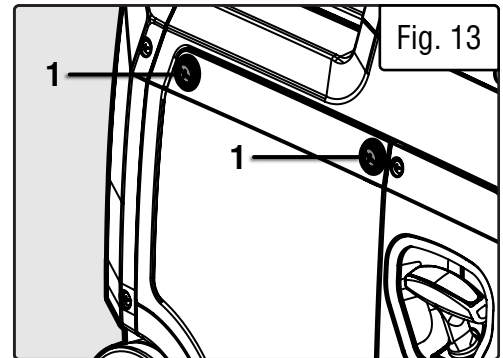
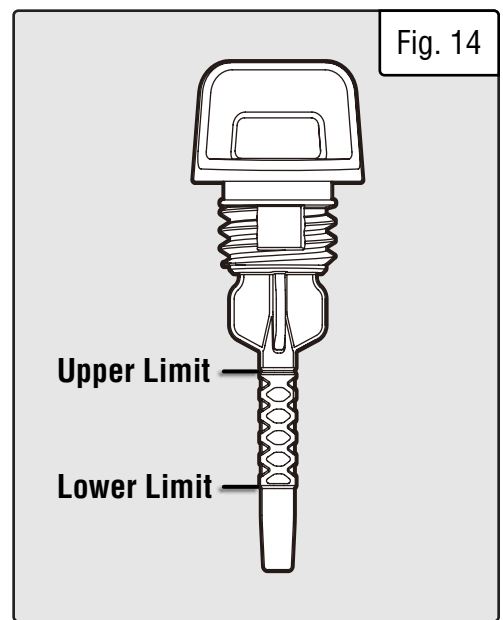

Fig. 13
Fig. 14
2. Open the side panel (to the right of the control panel) by twisting the side panel access knobs (Fig. 13 - 1). Remove and wipe the oil dipstick (Fig. 14) with a clean rag. Insert the dipstick into the oil fill opening without screwing it in.